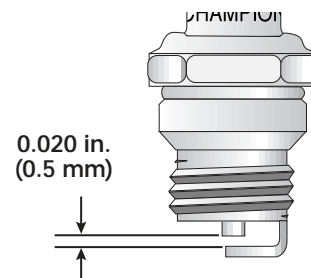

Fig. 25
3. Replace a cracked, fouled or dirty spark plug. Set the air gap at **0.020 in. (0.5 mm)** using a feeler gauge (Fig. 25).